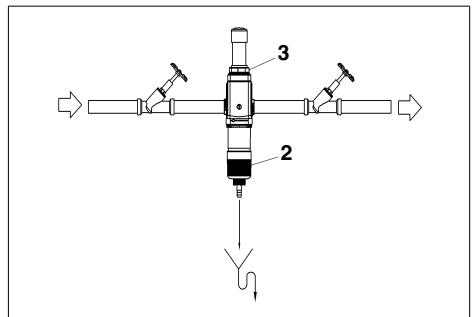

Fig. 12: Cartridge exchange II
2. Turn the handwheel for backwashing (2) counterclockwise so that the pressure remaining in the device can escape (see fig. 12).
3. Unscrew the union nut (3) at the phosphate cartridge counterclockwise.